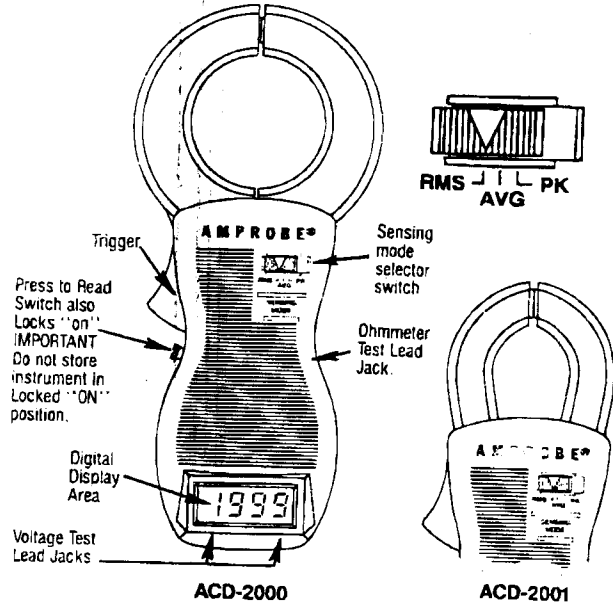
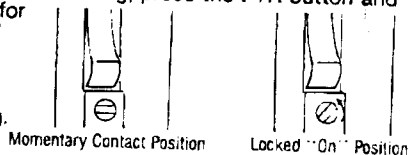

Fig. 1
Figure 4
- 3) Plug ohmmeter lead into jack on the right side of the instrument (See fig. 1).
For continuous operation, move the "sensing mode" selector to "RMS" or "AVG" position. For peak measurements, move the "sensing mode" selector switch to "peak" position (see fig. 1) and wait 3 seconds for the "peak hold" annunciator to appear in the display before taking a reading.
To take a reading once the instrument has been connected as per the following instructions, push in the PTR button. (See fig. 1) to lock the PTR button "on" for a constant readout, gently push in the PTR button and while depressed turn it counterclockwise 1/8 turn (fig 4.) When taking a peak reading, press the PTR button and wait 3 seconds for the "peak hold" annunciator to appear on the display before taking a reading.
3. Insert insulated voltage test lead connectors into voltage receptacles in bottom of instrument (see fig. 1). Push in against receptacle spring and twist clock-wise to lock in place.